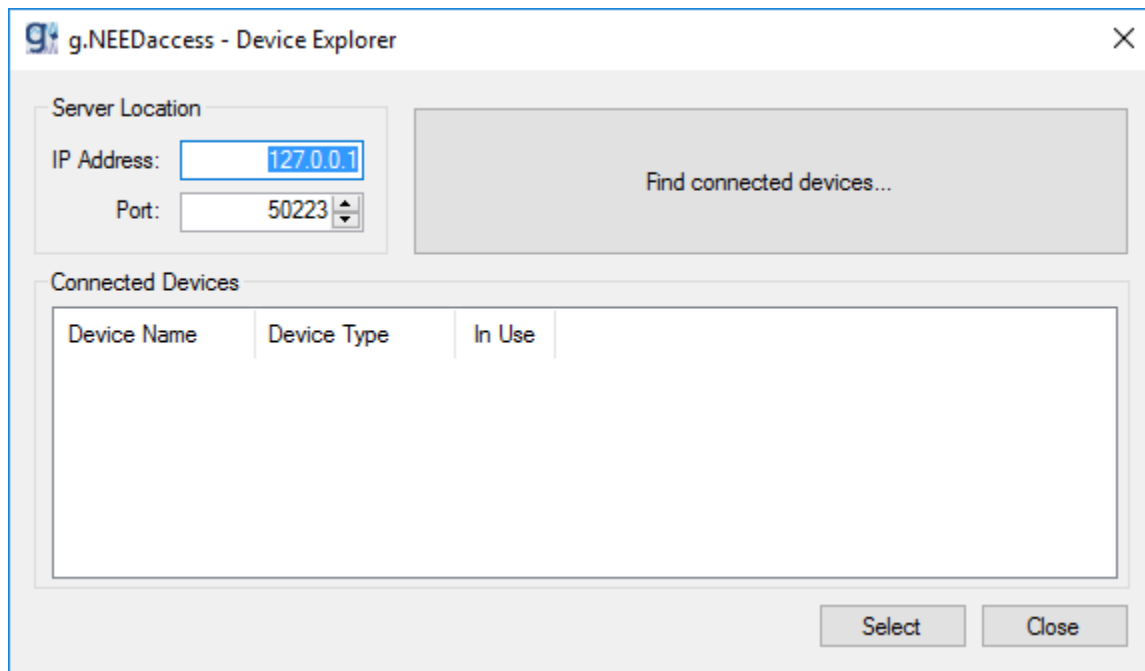

Figure 11: g.NEEDaccess Demo Client application starts up with the device explorer window.
g.NEEDaccess Server comes with an application for basic testing of the installation – the g.NEEDaccess Demo Client. Run it from the start menu or from the desktop at the client machine to launch the device explorer as shown in *Figure 11*.